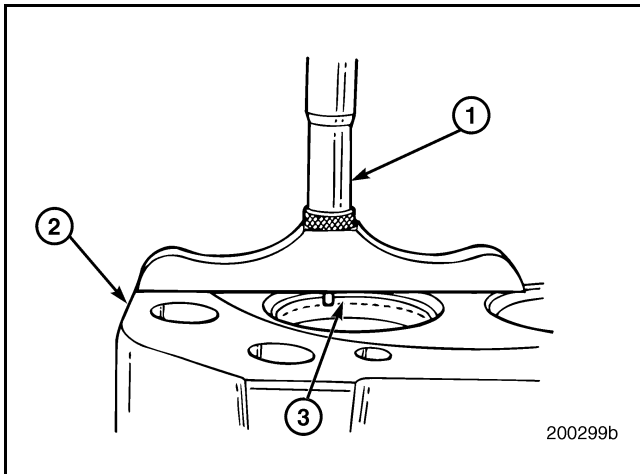

Figure 193 — Valve Insert Depth Measurement
1. Using depth measurement tool (1), measure the distance from the cylinder head surface (2) to the point on insert where the groove will be ground as shown in Figure 193.